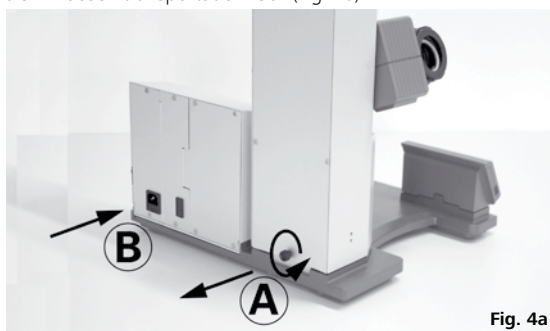

Fig. 4a
**Caution!** Loosen transportation lock (Fig. 4a)!